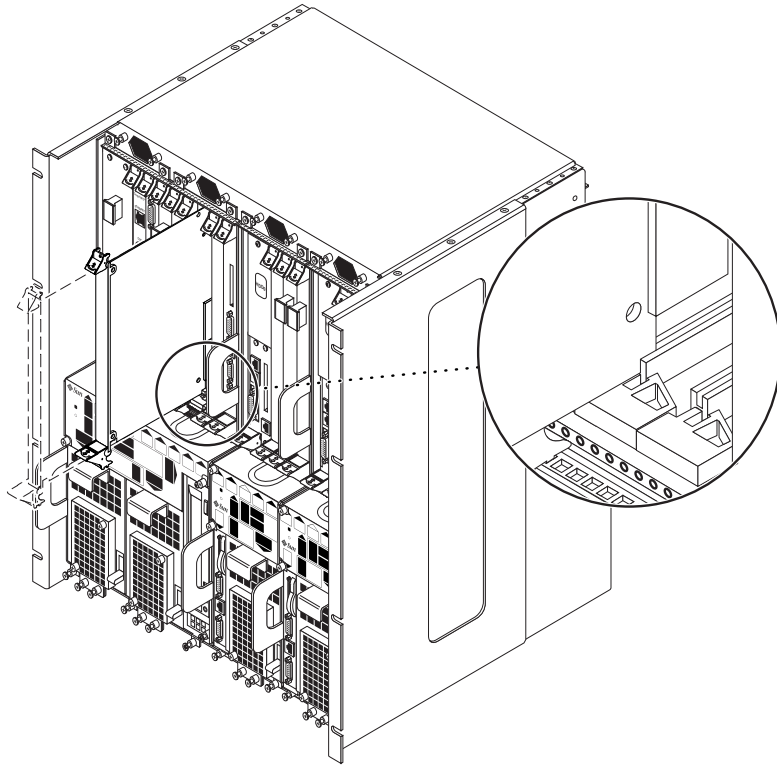

FIGURE 13 Aligning the Card with the Card Cage Cutouts
5. Keeping the card vertical, slide the card into the slot in between the two guides (FIGURE 13).
The teeth in the handle of the card must align with the square cutouts in the I/O slot. When the card is completely seated in the card cage, the two ejection levers should flip inward, and the teeth in the ejection levers should fit smoothly in the rectangular cutouts in the bottom and top plates. FIGURE 13 shows how to insert an I/O card into a slot; the same principal applies to an alarm rear transition card.
The teeth in the handle of the card must align with the square cutouts in the I/O slot. When the card is completely seated in the card cage, the two ejection levers should flip inward, and the teeth in the ejection levers should fit smoothly in the rectangular cutouts in the bottom and top plates. FIGURE 13 shows how to insert an I/O card into a slot; the same principle applies to an alarm card.